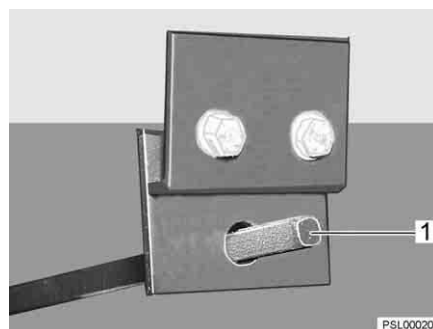

Fig. 64 Using the waste water tap
- Place key onto the square bolt (Fig. 64,1).